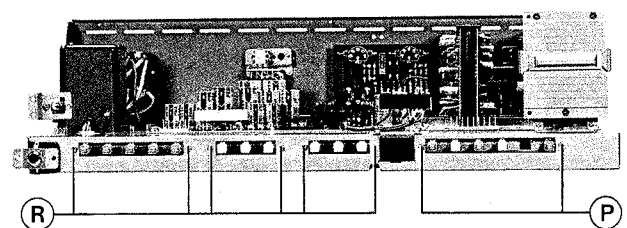
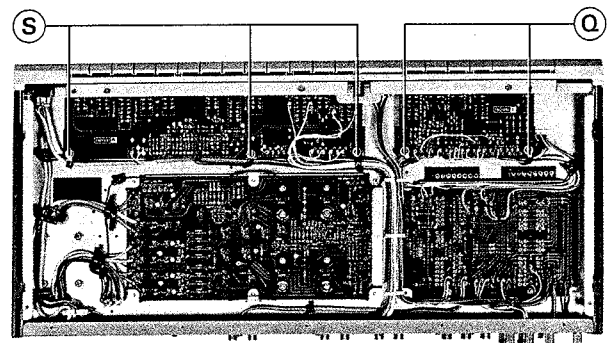

Fig. 33
Fig. 34
- 2) Remove 2 screws (P) indicated on Fig. 33 and 2 screws (Q) indicated on Fig. 34, then TAC-390A will be came out removable.
- 3) Remove 6 screws (R) indicated on Fig. 33 and 3 screws (S) indicated on Fig. 34, then TAC-391B will be removable.